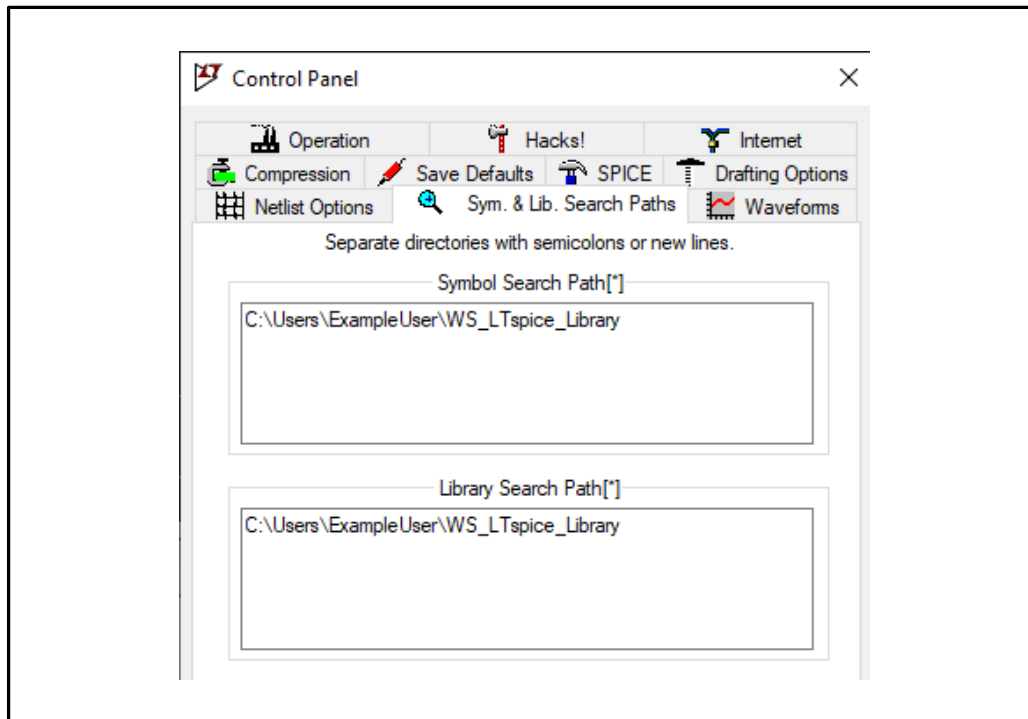

Figure 1: LTspice symbol and library search path screenshot
6. Open LTspice and go to Tools -> Control Panel -> Sym. & Lib. Search Paths. Enter your desired directory into both the symbol and library search paths (see Figure 1).